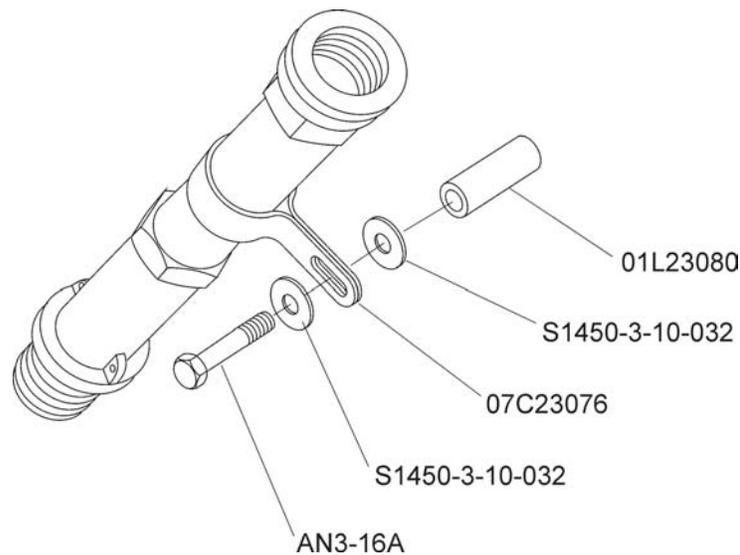

Figure 3.
If Kit P/N 05K23081 has been installed, refer to Figure 3. If two P/N S1450-3-10-032 washers are installed, no further action is required. If one S1450-3-8-032 washer is installed replace it as follows:
4. Reinstall the P/N AN3-16A bolt and the P/N 01L23080 spacer, using one P/N S-1450-3-10-032 washer under the bolt head and one between the bracket and spacer as shown in Figure 3. Torque the bolt to 49 in.-lbs.